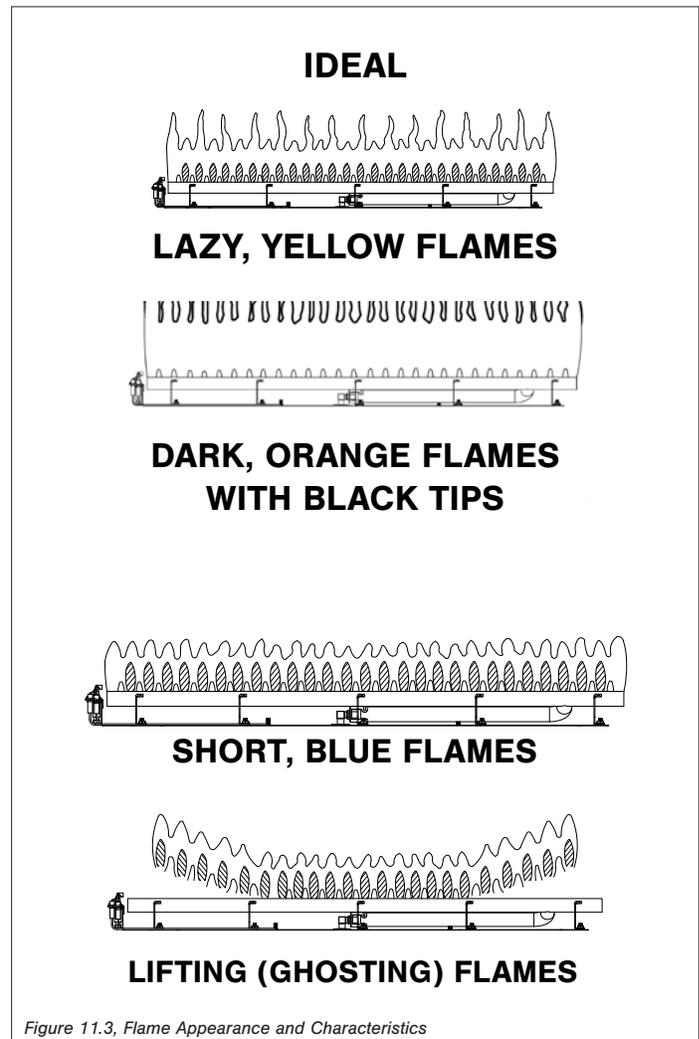

Figure 11.3, Flame Appearance and Characteristics
- Visually check pilot light and burner flame pattern when in operation. Flames should be steady, not lifting or floating. Refer to Figure 11.3, Flame Appearance and Characteristics on page 35.